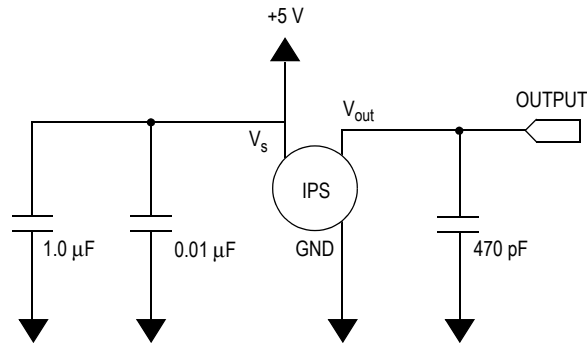
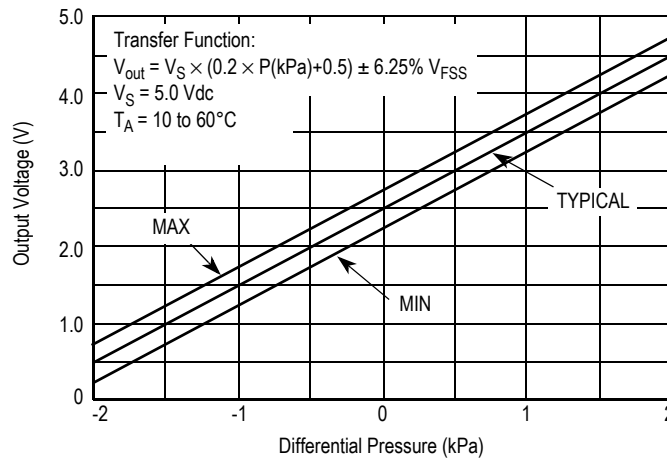

Figure 3. Recommended Power Supply Decoupling and Output Filtering (For additional output filtering, please refer to Application Note AN1646.)
Figure 4. Output versus Pressure Differential
**Table 1. Operating Characteristics** ( $V_S = 5.0$  Vdc,  $T_A = 25^\circ\text{C}$  unless otherwise noted. Decoupling circuit shown in Figure 3 required to meet specification.)
Figure 3 shows the recommended decoupling circuit for interfacing the integrated sensor to the A/D input of a microprocessor or microcontroller. Proper decoupling of the power supply is recommended.
Figure 4 shows the sensor output signal relative to pressure input. Typical, minimum, and maximum output curves are shown for operation over a temperature range of 10° to 60°C using the decoupling circuit shown in Figure 3. The output will saturate outside of the specified pressure range.